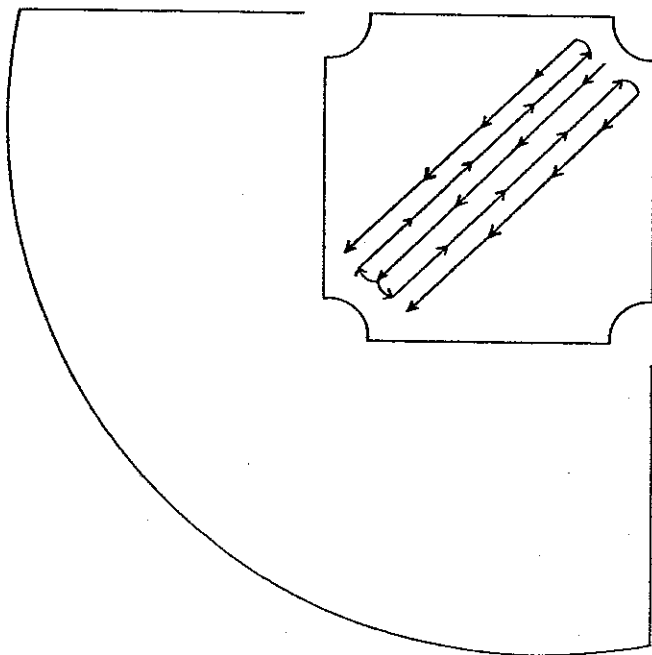

Figure 13.
- e. Straight line home plate to second base. (Figure 13.)